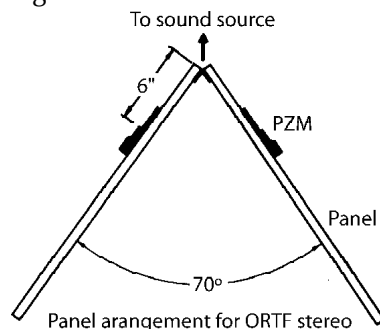

Fig. 10
- Mount a PZM 6 inches from the edge of a 2-foot square panel. Mount another PZM similarly on another panel. Tape together the panel edges nearest the microphones, forming a “V.” Aim the point of the “V” at the center of the sound source. Angle the panels about 70 degrees apart (as in Fig. 10). This assembly is called a PZM wedge.